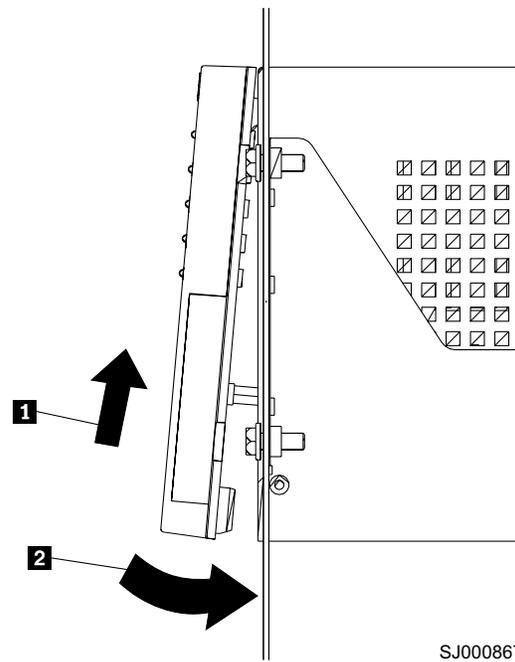

Figure 10. Replacing the controller-unit bezel (machine types 3552 and 1742)
4. To replace the bezel, slide the top edge under the lip on the chassis **1**. Then push the bezel bottom until the pins snap into the mounting holes **2**, as shown in Figure 10.